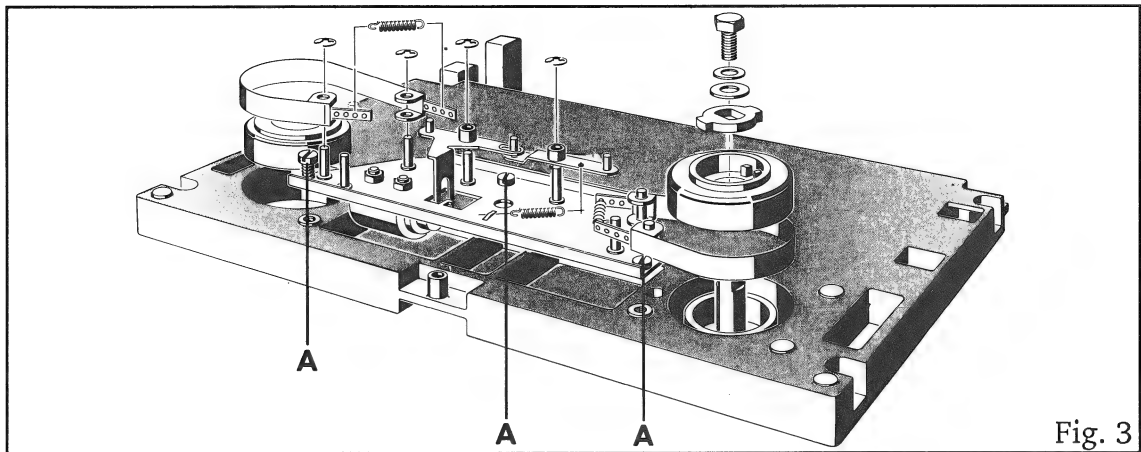

Fig. 3
- Check that both brake systems are lifted simultaneously by the lifting pins. If this is not the case, the brake chassis can be unfastened (3 screws A, Fig. 3) and shifted in such a way that the brake bands lift simultaneously. If necessary one brake adjustment lever can be lightly bent. The brake solenoid must be energized during the adjustment procedure.